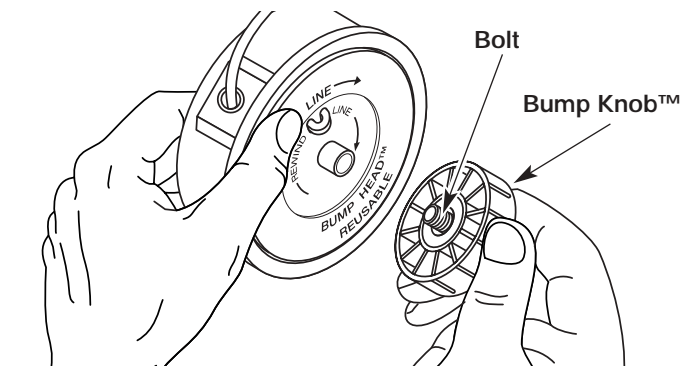

Fig. 31
1. Hold the outer spool with one hand and unscrew the Bump Knob™ counterclockwise (Fig. 31). Inspect the bolt inside the Bump Knob to make sure it moves freely. Replace the Bump Knob if damaged.
1. Hold the outer spool with one hand and unscrew the bump knob counterclockwise (Fig. 31). Inspect the bolt inside the bump knob to make sure it moves freely. Replace the bump knob if damaged.